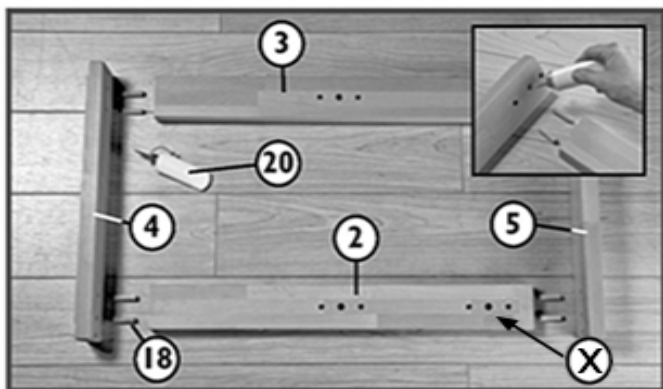

Fig. 1 X=holes for stretchers if cupboard is used
- Place Base (5), Top Rail Support (4), Back Leg (3) and Front Leg with Bench Dog Storage Holes (2) with dowel holes facing inward as shown (**Fig. 1**). Attach the Base and Top Rail Support to the Front Leg with Bench Dog Holes (2) and Back Leg (3) using four Dowels (18) and Glue (20) for each (see **Fig. 1** inset photo). Use the inner holes. The outer hole on each side of the Top Rail Support (4) will later be used to attach the Bench Top (1). Repeat this process for the other leg assembly.